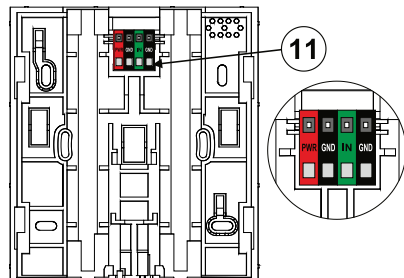

Fig. 3: Description of the rear of the product
2. Use 4 screws to screw the rear part of the keypad to a flat wall. To connect the external power supply or door opening detector, use the terminals in the rear part of the keypad, see Fig. 3. For a description of the connection, see the sections Alternative power supply and connecting the door opening detector.